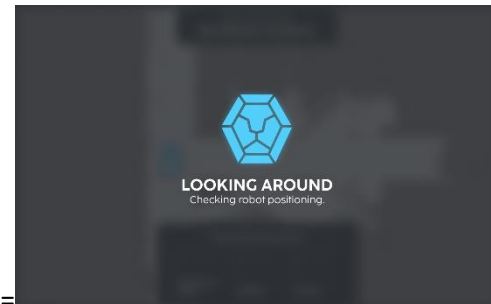

Fig. 5
5. Manually move robot to a localization point selected on the map, then select the localize button. Wait for the robot to check its surroundings (Fig 5).